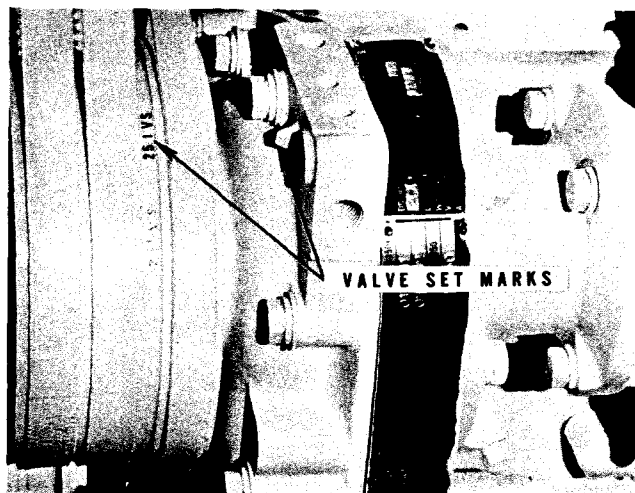

Fig. 5-18. Valve set marks
2. Bar engine in direction of rotation until No. 1 VS mark appears. See Fig. 5-18 for location of valve set marks. (On horizontal engines, the valve set marks are on the vibration damper flange.) In this position, both intake and exhaust valves must be closed for cylinder No. 1, if not, advance crankshaft one revolution.